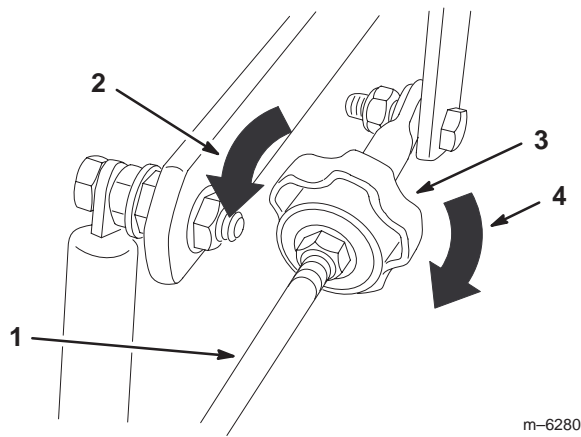

Figure 46
4. To make the machine go right, turn the knob towards the right side of the machine. Refer to figure 46.
5. To make the machine go left, turn the knob towards the left side of the machine. Refer to figure 46.